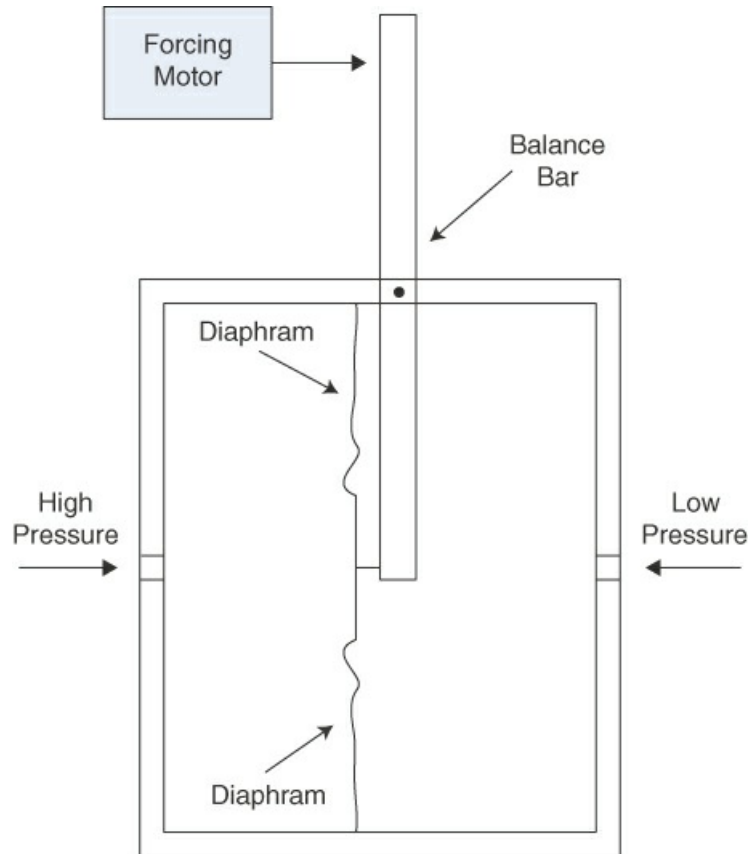

Figure 2.11 Schematic of a DP cell that uses a balance bar
Industrial Pressure Sensors. The most common board-mounted pressure sensor in the process industries is the differential pressure (DP) cell, which usually uses a balanced bar that is deflected on the basis of the differential pressure between two compartments. Because the two compartments of the DP cell are in contact with opposite sides of the diaphragm, the higher pressure side will exert more force on the balance bar (Figure 2.11). A precision forcing motor is